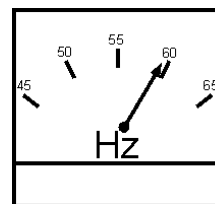

Figure 22. Frequency Meter (Hz)
12. The generator's frequency meter (Figure 22) displays the 60 cycle output frequency in **HERTZ**.